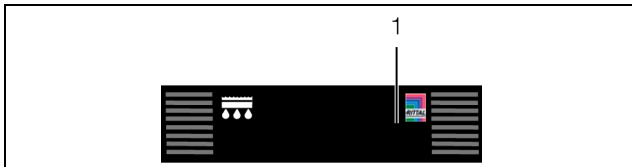
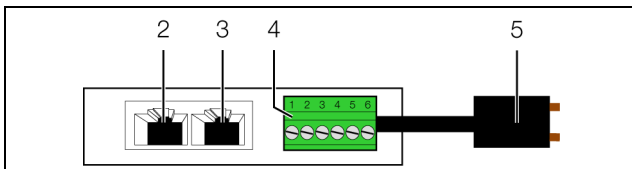

Fig. 10: Front of the leak sensor
Fig. 11: Rear of the leak sensor
A multi-LED for the status display is integrated into the front of the leak sensor (fig. 10, item 1). Further LEDs are located at the rear on the CAN bus connection (fig. 11, items 2 and 3).